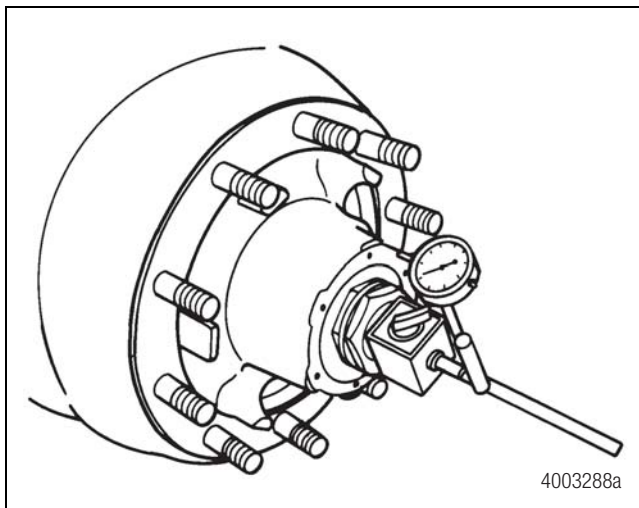

Figure 10.7
- A. Attach the magnetic base of a dial indicator to the spindle. Touch the dial indicator stem to the hubcap gasket face. Figure 10.7.